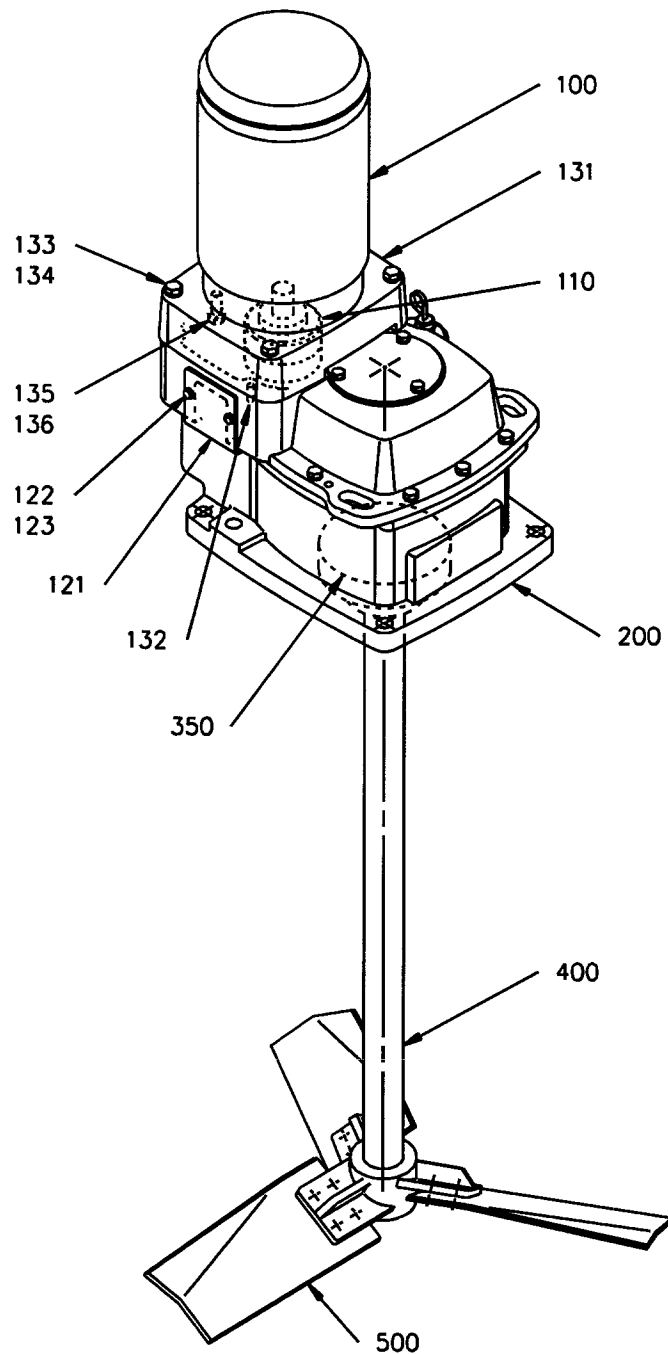

Figure 3: Model GTD Agitator Assembly
1. The GT agitator is shipped in three or more crates: one for the agitator gear drive, (*Figures 3 & 4, pages 10 & 11*), one for the shaft [400] and impeller [500], and typically one for the motor [100]. Optional accessories, multiple shafts, or multiple impellers may be crated separately.